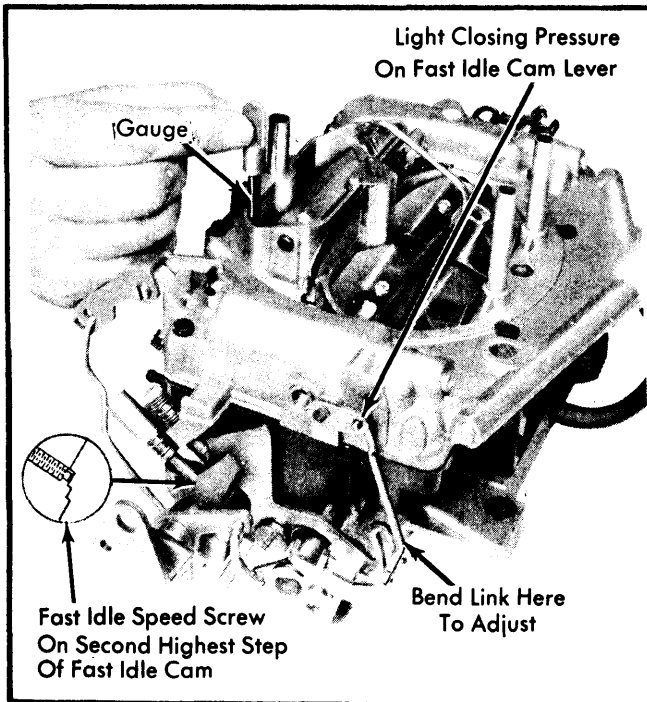

Fig. 12 Adjusting Fast Idle Cam Position
1) Position fast idle speed screw on second step of fast idle cam. Close choke valve by applying light closing pressure on fast idle cam lever. See Fig. 12.